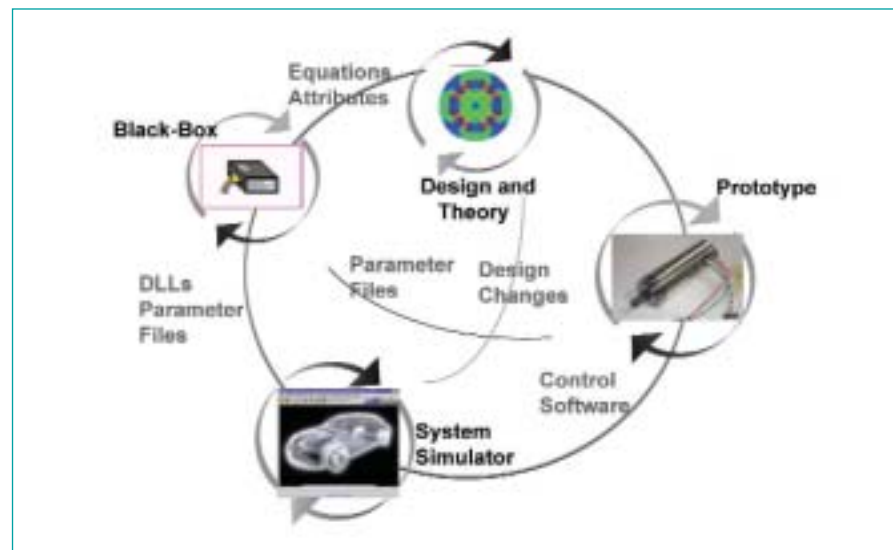

Figure 1. Development steps of power trains containing EM-components.
In combination with general purpose system simulators like Matlab/Simulink [5] for the design of a mechatronic systems or even specialized power electronic/electrical drive simulators as Caspoc[6], the whole development process including the simulation of electromechanical (EM)-components and the power train might be described by a four-step structure as shown in Figure 1.